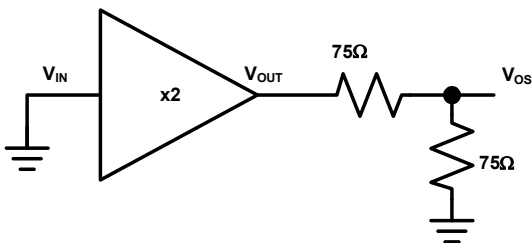

FIGURE 2. V_{0S} MEASUREMENT CONDITIONS
- Offset measurements are referred to 75Ω load as shown in Figure 2.